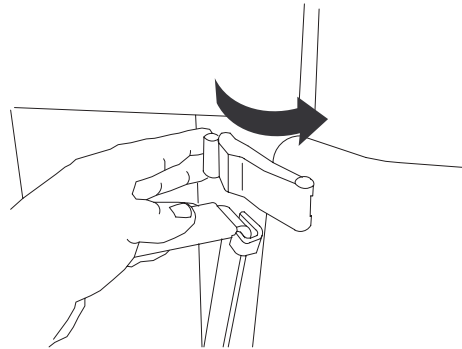

Figure 32
1. Pull out and forward on the latches on both sides of the traction unit (Fig. 32).
2. Swing the rear access cover down and pull it away from the traction unit (Fig. 32).
2. Place the latches over the locking brackets on each side and secure them (Fig. 32).